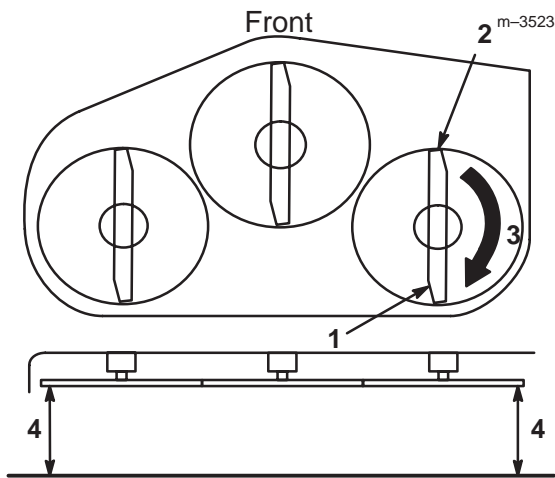
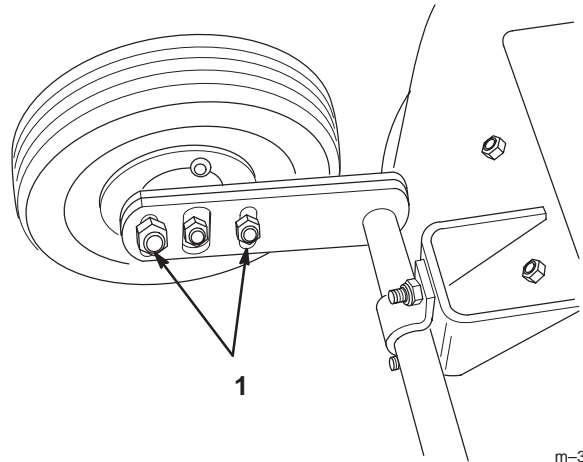

Figure 18
Figure 20
2. Carefully rotate one of the blades so it is oriented front to rear (Fig. 18).
3. Measure the distance from the front tip of the blade (Fig. 18) to the flat surface.
Equalize the side to side cut by adjusting the two carriage bolts (Fig. 20) on the mower wheels. Check the height of the blade at outside blade tips (Fig. 18).
6. Check the slope of one of the blades (Fig. 18).